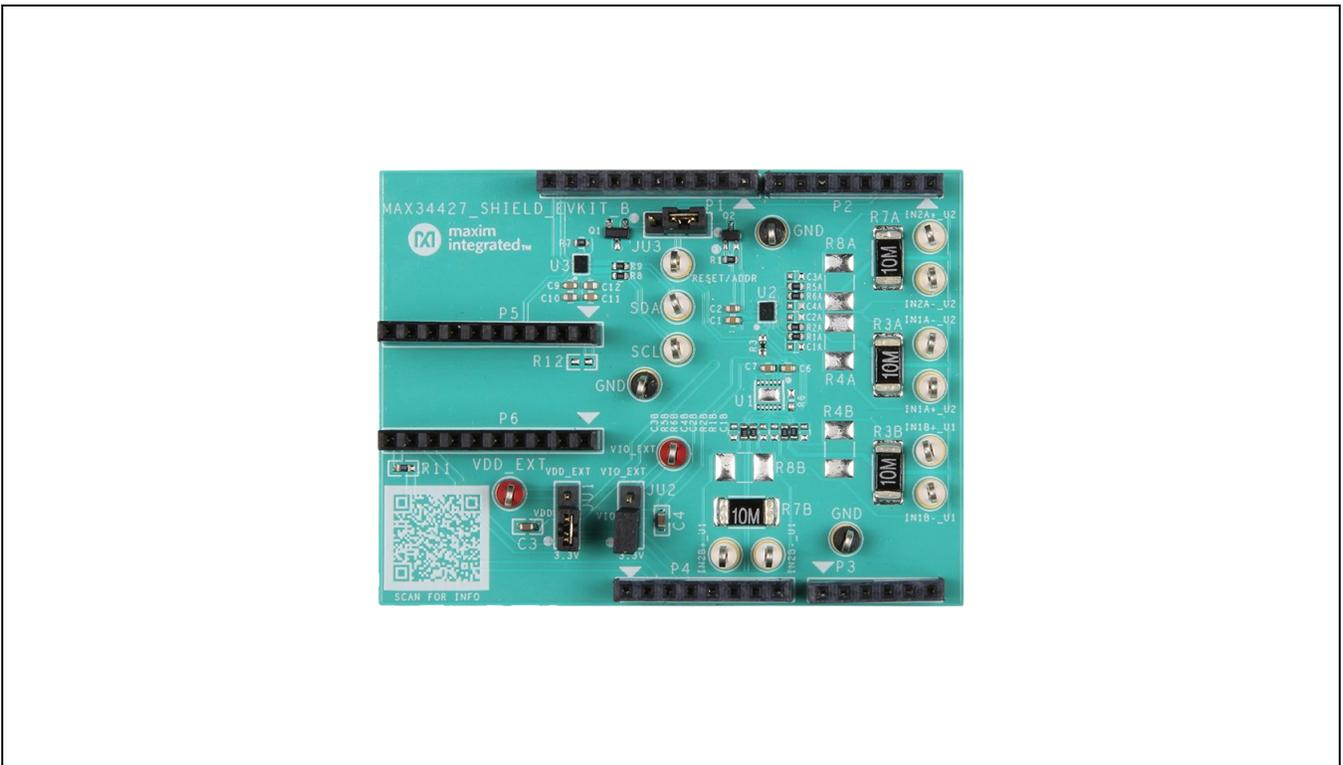
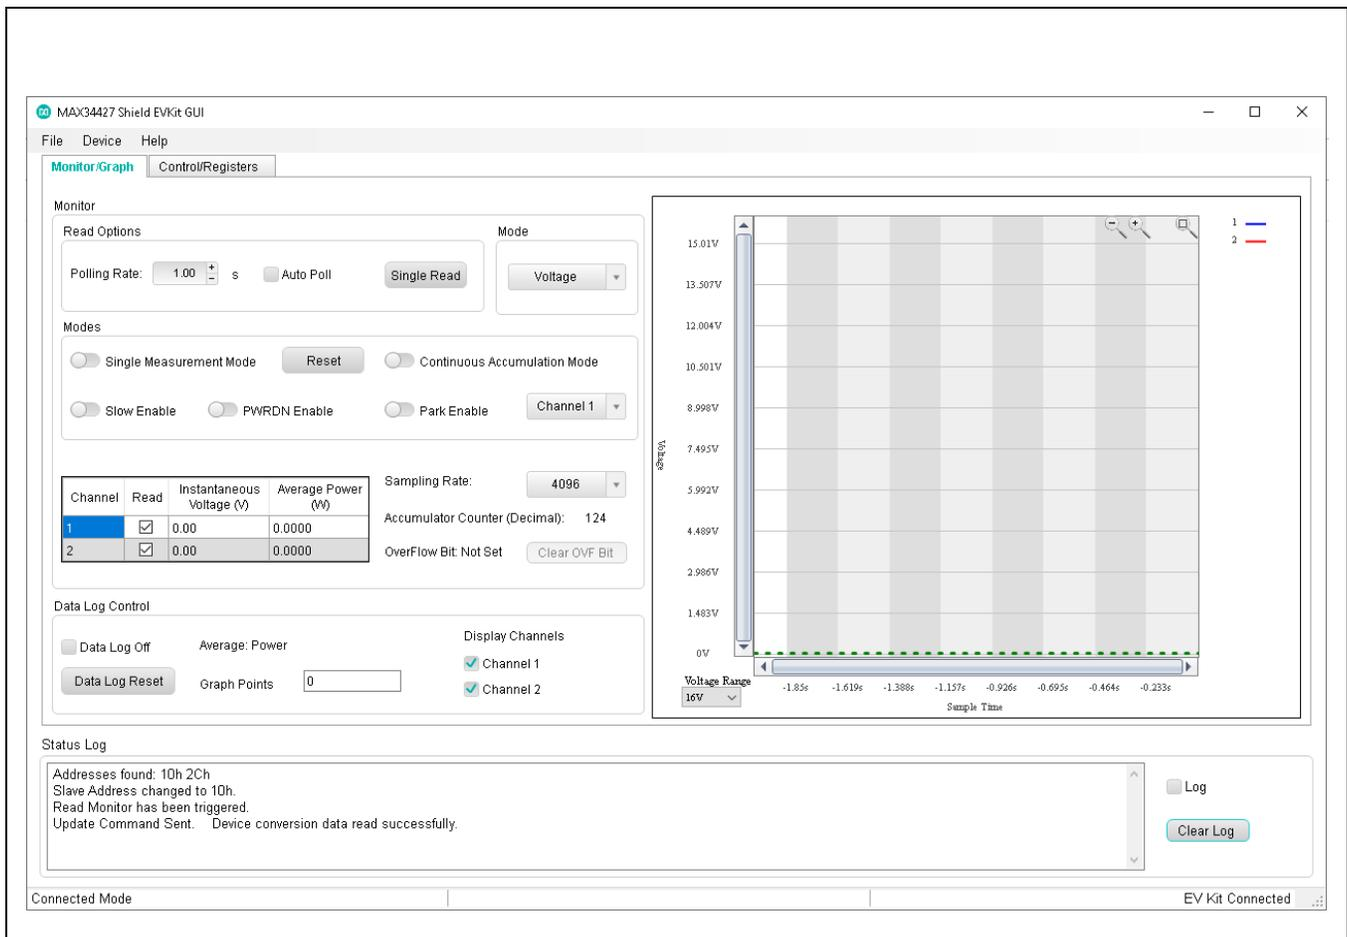

Figure 1. MAX34427Shield EV Kit Board Connections
Figure 2. MAX34427 Shield EV Kit GUI—Monitor Graph Tab
3. Connect the MAX32625PICO I2C circuit board to the EV kit at its location (Figure 1).
The **Monitor/Graph** tab (Figure 1) displays all the accumulator values. In the **Monitor** group box table, the Polled values are the Accumulator values read from PWR\_ACC\_1 and PWR\_ACC\_2 that are converted to amps using the **RSENSE** value in the **Sense Resistors** table on **Control/Registers** tab of the GUI (Figure 2). The **Instantaneous Voltage** and **Average Power** columns track the voltage and average power of the **Polled** value for each channel. The **Current** option can be selected from the **Mode** drop-down menu to see the **Average Current** column track the current of the **Polled** value for each channel. All values on the tab are read when the tab is selected or when the **Read** button is clicked. The **OC** status bits are cleared after every read. Check the **Auto Poll** checkbox to continuously read with the **Polling Rate**.
The Control/Registers tab (Figure 2) displays all the SMBus commands and their current values. In the Control group box table, the **RSENSE (mΩ)** column is the value of the resistor (R3X–R4X) between IN\_P and IN\_N signals. The **Max Current (A)** column displays the maximum current threshold converted to amps using the **RSENSE** value.